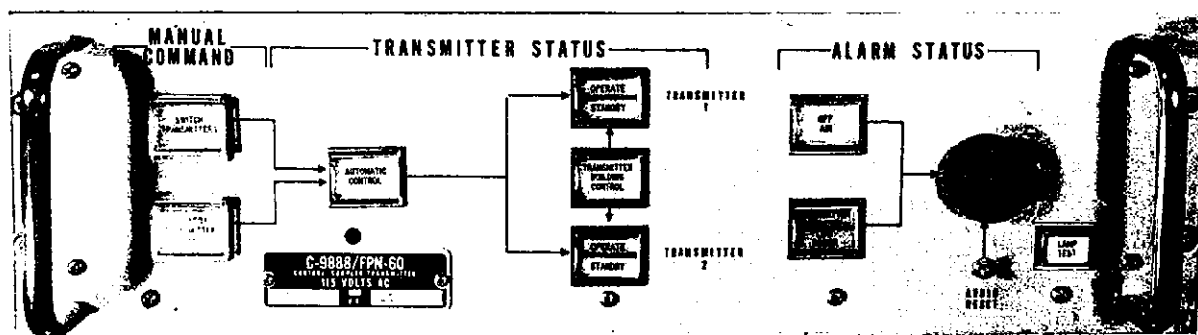

Figure 1.4. 1A2-Transmitter Coupler Control (C-9888/FPN-60)
1.3.2 Transmitter Coupler Control (1A2). The Transmitter Coupler Control (Figure 1.4) contains the Transmitter Control Module W0678-5/XMTR CON, Relay Assembly W0678-13, and Transmitter Control Driver W0678-6/XMTR CON DVR. The Transmitter Coupler Control (TCC) performs the following functions: